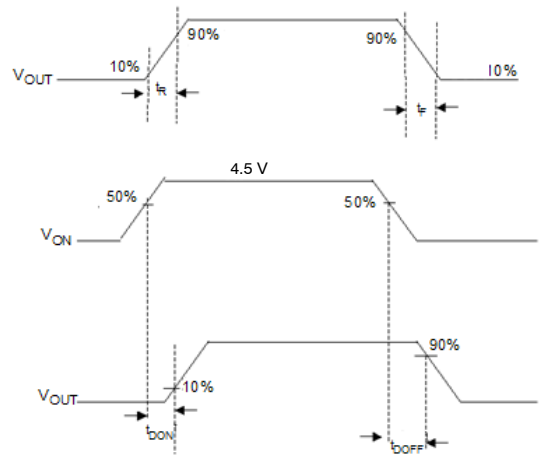

Figure 21. Timing Diagram
8. $t_{DON}/t_{DOFF}/t_R/t_F$ are defined in Figure 21.